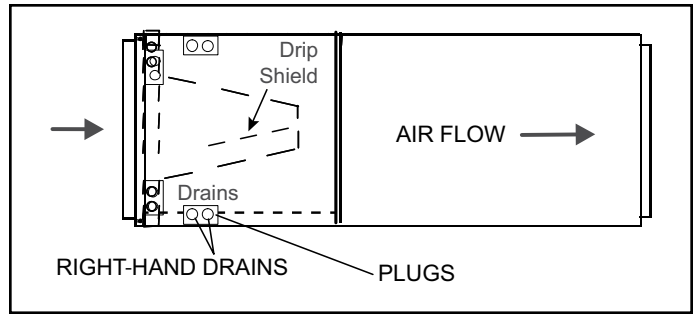

Figure 9. Right-Hand Discharge Configuration
- The horizontal configuration is shown in Figure 9.